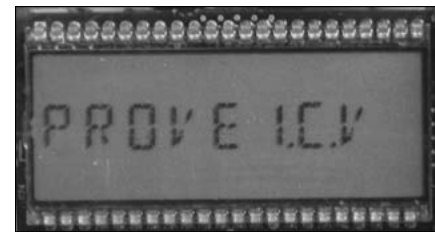

Figure 4 - LCD screen displays PROVE I.C.V
- After five seconds, the display will change to **PROVE I.C.V** (Figure 4).